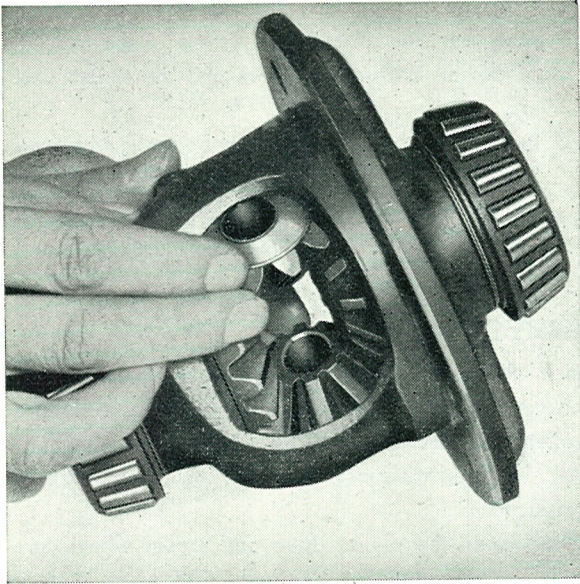

Fig. 4-103. Fitting the differential gear
1. Place the differential side gears and the thrust washers in the differential carrier. Then "roll" in the differential pinions both simultaneously with the dished thrust washers, see Fig. 4-103.